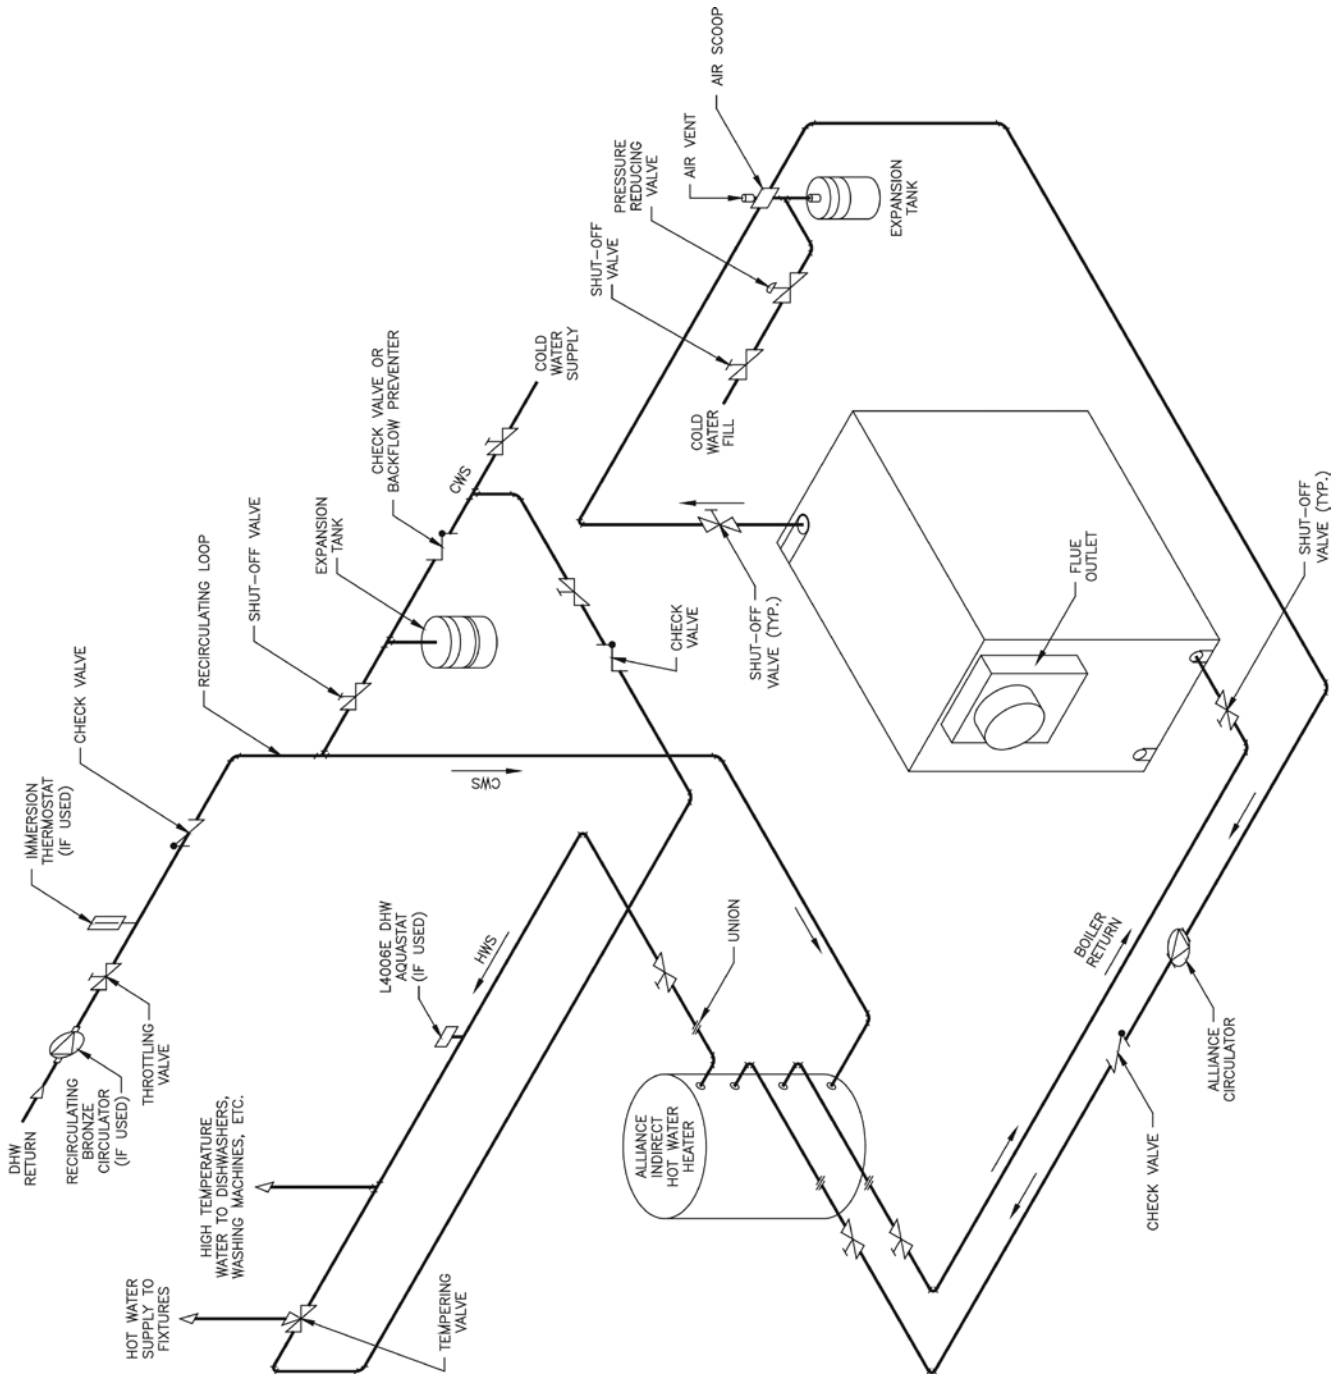

Figure 34c: DHW Generation with Indirect Water Heater
3. Hot Water Boiler/Indirect Water Heater - The use of indirect water heaters for domestic hot water generation is common and somewhat advantageous over tankless coils alone, since they also provide DHW storage. A tempering valve and recirculating pump are again recommended for a dual temperature system, to provide a constant temperature to the fixtures without waiting for cooler water to warm up. Figure 34c shows a typical indirect heater piping application with no space heating. Indirect pump flow rates are calculated based on a 20°F ΔT.